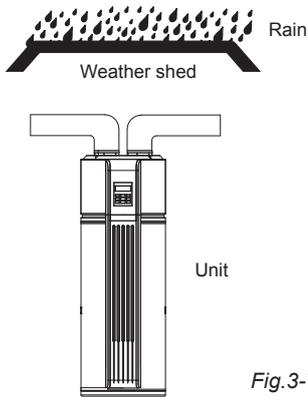

Fig. 3-7
- In terms of the unit connect with duct reaching to outdoor, a reliable water-resistant measure must be conduct on the duct, to prevent water from dropping into internal of the unit. (Fig. 3-7)